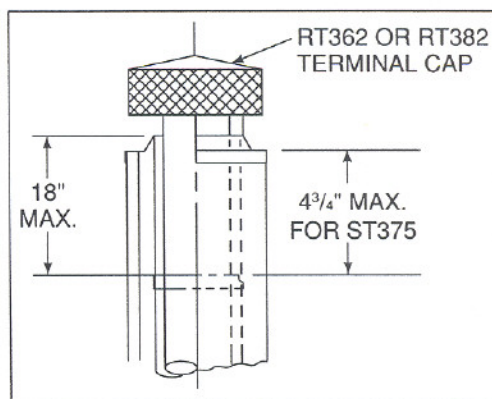

Figure 19
2. Install the Chimney Sections up through the chase. When using a Round Terminal Cap (RT364, RT364S or RT384), the last section of Pipe must extend above the Chase Top to allow installation of the Storm Collar and Terminal Cap. For installations utilizing a Telescoping Round Terminal Cap (RT362 or RT382) or Telescoping Square Terminal Cap (ST376), the last Chimney Section must be below the top of the Chase Top, but not more than 18" below the Chase Top. For installations utilizing a Square Terminal Cap (ST375), the last Chimney Section must not be more than 4³/₄" below the base of the Chase Top. See Figure 19.